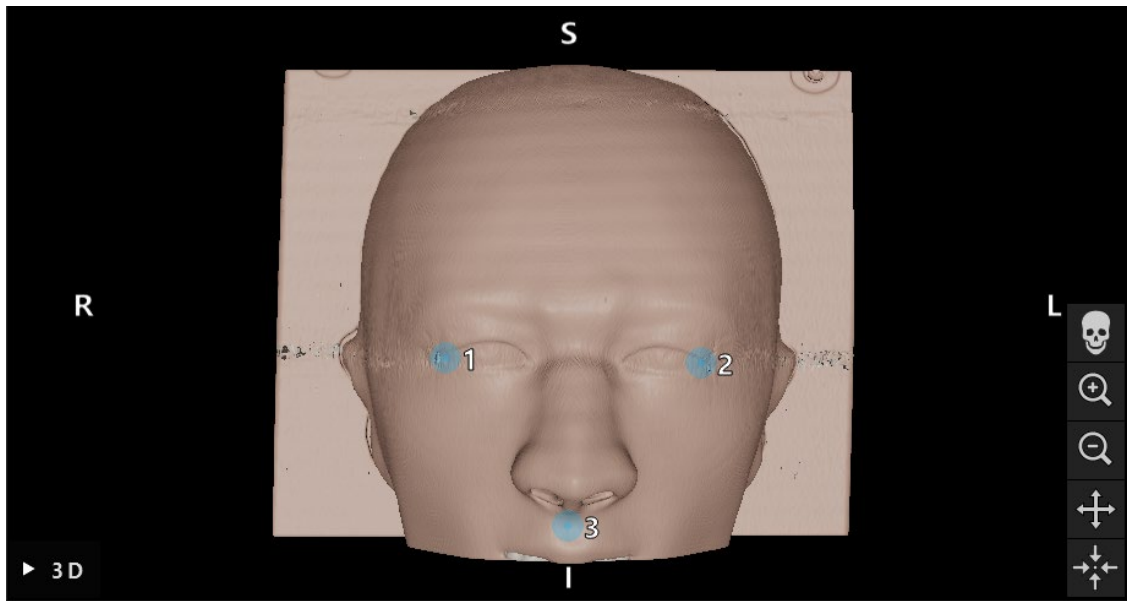

Figure 141 Confirm or increase accuracy
3. After successfully touching all landmarks, the advice window shows the message, "Please confirm or increase accuracy." (see Figure 141)